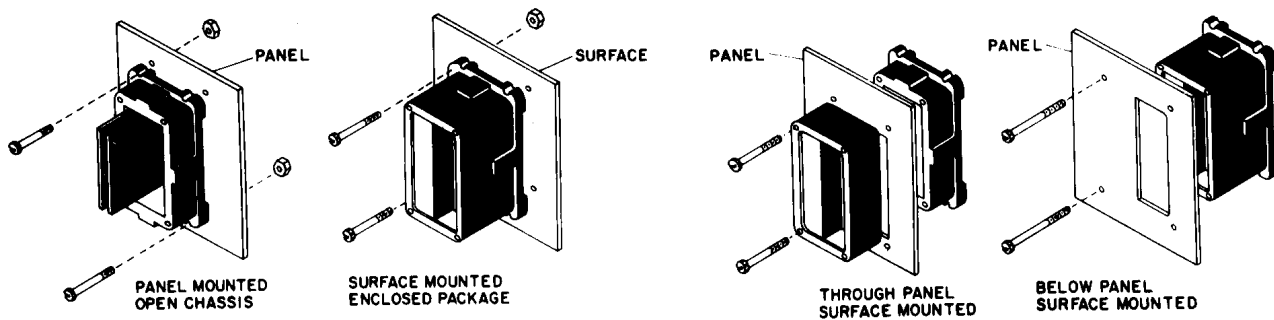

Figure 2. Series Beta Mounting Configurations
3. The controller can be mounted in any of four configurations, as shown in Figure 2.